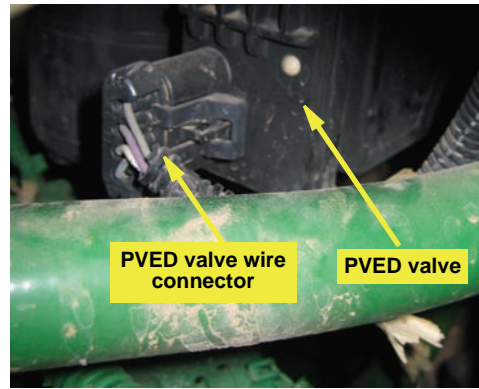

Figure 2e: PVED and wire connector
- f. Locate and disconnect the 4-pin wire connector from the PVED valve (Figure 2e). Cover the disconnected cable connector with plastic wrap. Connect cable **ED** to the open wire connector on the PVED valve (not shown).